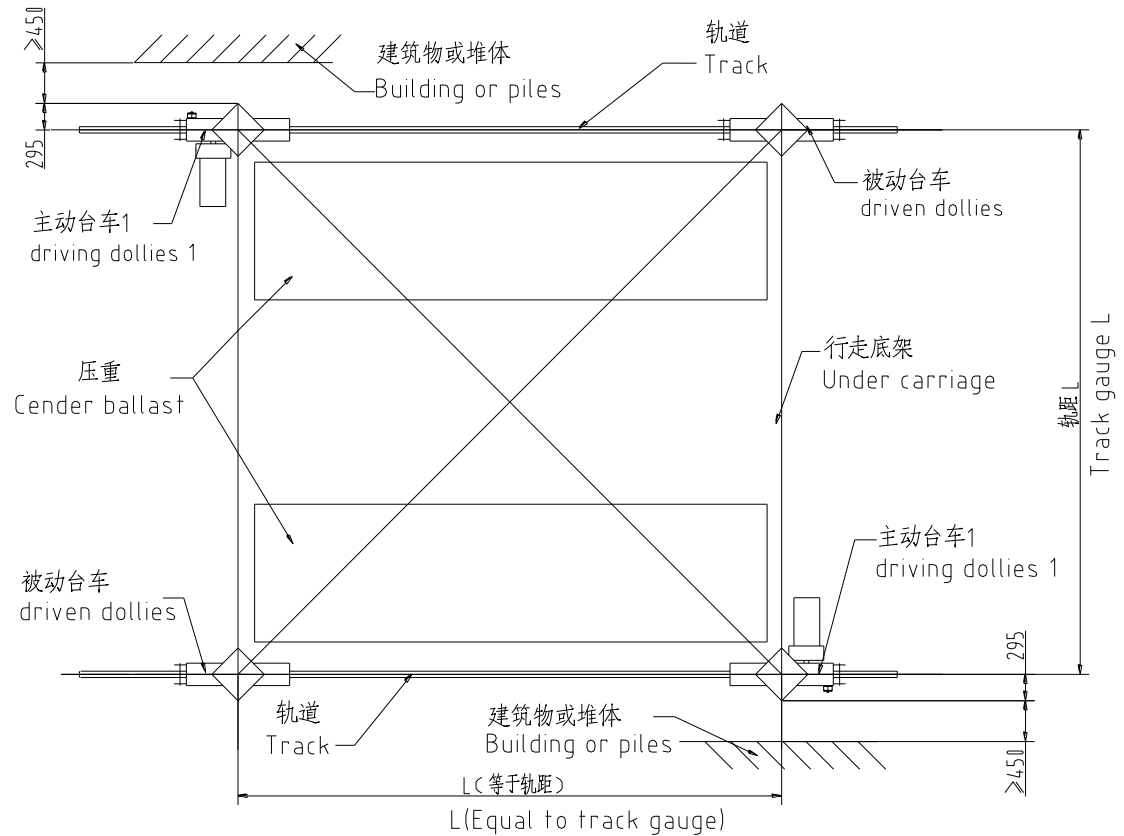

Fig. 4-63 Arrangement of the dollies
1) The two driving dollies 1 must be arranged on the diagonal line (rail clamp outward), two driven dollies also must be arranged on the diagonal line (rail clamp outward), see Fig. 4-63;